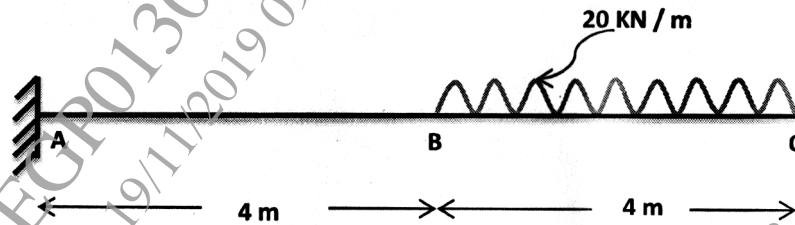

Fig. 2
- (b) Determine the vertical deflection at free end of beam ABC shown in fig. 2 by using Castigliano's first theorem. Consider constant EI. [6]